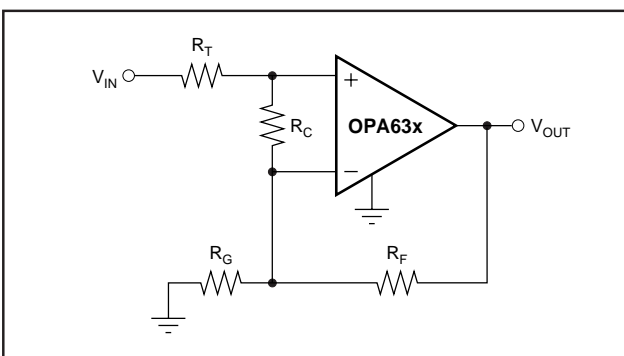

FIGURE 4. Compensated Non-Inverting Amplifier.
Figure 4 shows a non-inverting amplifier that reduces peaking at low gains. The resistor R_C compensates the OPA634 or OPA635 to have higher Noise Gain (NG), which reduces the AC response peaking (typically 5dB at $G = +1$ without R_C) without changing the DC gain. V_{IN} needs to be a low impedance source, such as an op amp. The resistor values are low to reduce noise. Using both R_T and R_F helps minimize the impact of parasitic impedances.
Since the OPA634 and OPA635 are voltage feedback op amps, a wide range of resistor values may be used for the feedback and gain setting resistors. The primary limits on these values are set by dynamic range (noise and distortion) and parasitic capacitance considerations. For a non-inverting unity gain follower application, the feedback connection should be made with a 25Ω resistor, not a direct short (see Figure 4). This will isolate the inverting input capacitance from the output pin and improve the frequency response flatness. Usually, for $G > 1$ application, the feedback resistor value should be between 200Ω and $1.5k\Omega$. Below 200Ω , the feedback network will present additional output loading which can degrade the harmonic distortion performance. Above $1.5k\Omega$, the typical parasitic capacitance (approximately $0.2pF$) across the feedback resistor may cause unintentional band-limiting in the amplifier response.
The criterion for setting this R_S resistor is a maximum bandwidth, flat frequency response at the load. For a gain of $+2$, the frequency response at the output pin is already slightly peaked without the capacitive load, requiring relatively high values of R_S to flatten the response at the load. Increasing the noise gain will also reduce the peaking (see Figure 4).
Resistors should be a very low reactance type. Surface-mount resistors work best and allow a tighter overall layout. Metal film or carbon composition axially-leaded resistors can also provide good high frequency performance. Again, keep their leads and PC board traces as short as possible. Never use wirewound type resistors in a high frequency application. Since the output pin and inverting input pin are the most sensitive to parasitic capacitance, always position the feedback and series output resistor, if any, as close as possible to the output pin. Other network components, such as non-inverting input termination resistors, should also be placed close to the package. Where double-side component mounting is allowed, place the feedback resistor directly under the package on the other side of the board between the output and inverting input pins. Even with a low parasitic capacitance shunting the external resistors, excessively high resistor values can create significant time constants that can degrade performance. Good axial metal film or surface-mount resistors have approximately 0.2pF in shunt with the resistor. For resistor values $>1.5\text{k}\Omega$, this parasitic capacitance can add a pole and/or zero below 500MHz that can effect circuit operation. Keep resistor values as low as possible consistent with load driving considerations. The 750Ω feedback used in the typical performance specifications is a good starting point for design. See Figure 4 for the unity gain follower application.